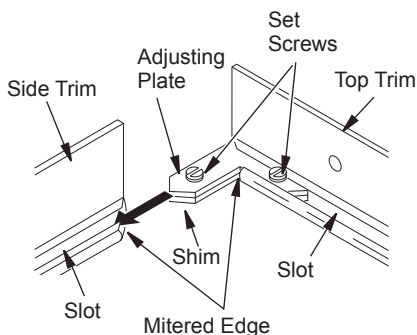

Figure 28 - Assembling Perimeter Trim
3. Align shim under adjusting plate as shown in Figure 28.
4. Slide one end of adjusting plate/shim in slot on mitered edge of top trim (see Figure 28).
5. Slide other end of adjusting plate/shim in slot on mitered edge of side trim (see Figure 28).